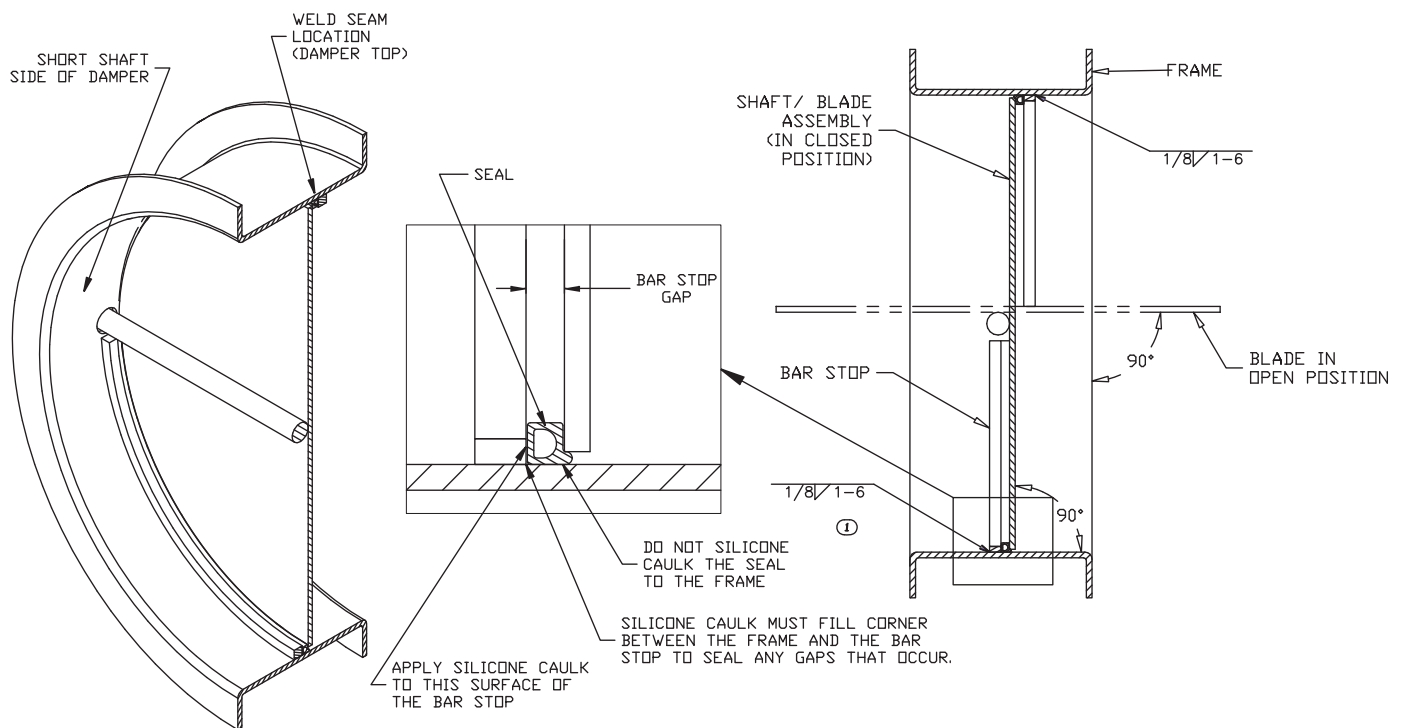

Figure 1
- 3) Replacement seal is either approximately square or "D" shaped. The flat surface of seal is to be oriented against the rolled bar stop and is to be located along perimeter. See Figure 1.